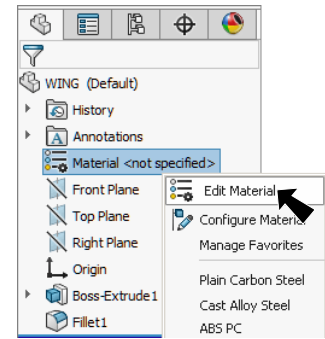

Fig. 13
Step 2. **Right click Material**  in the Feature Manager and click **Edit Material**, Fig. 13.